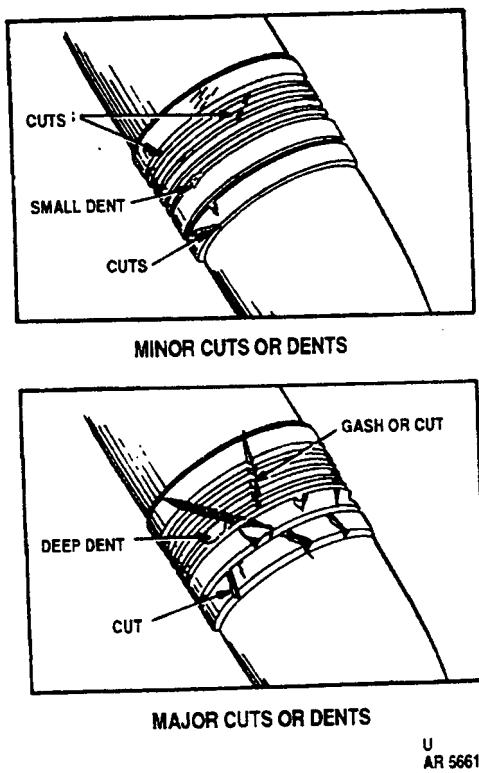

Figure 3-15. Rotating Band Damage.
3.9.1.3 Rotating band damage (fig. 3-15).